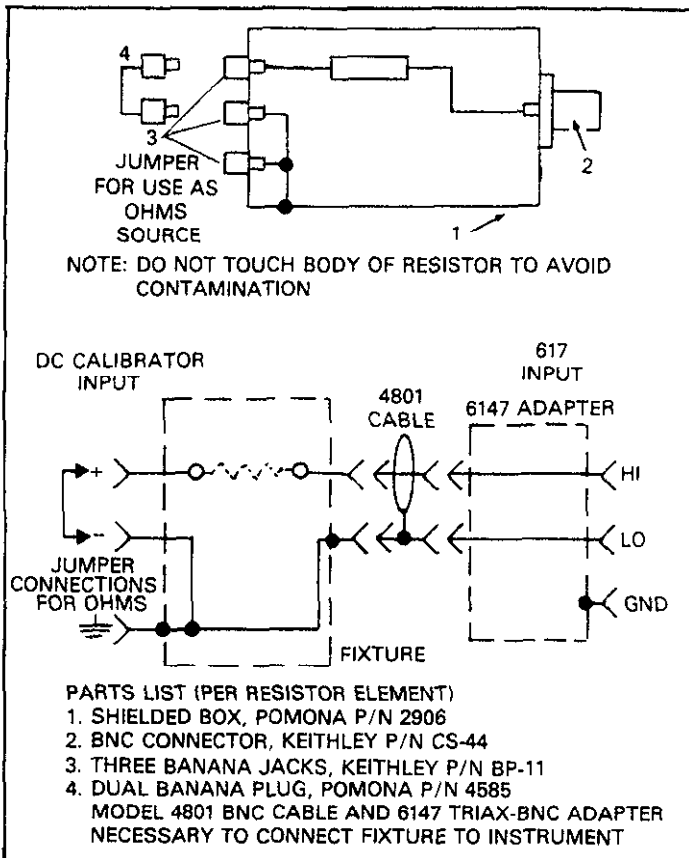
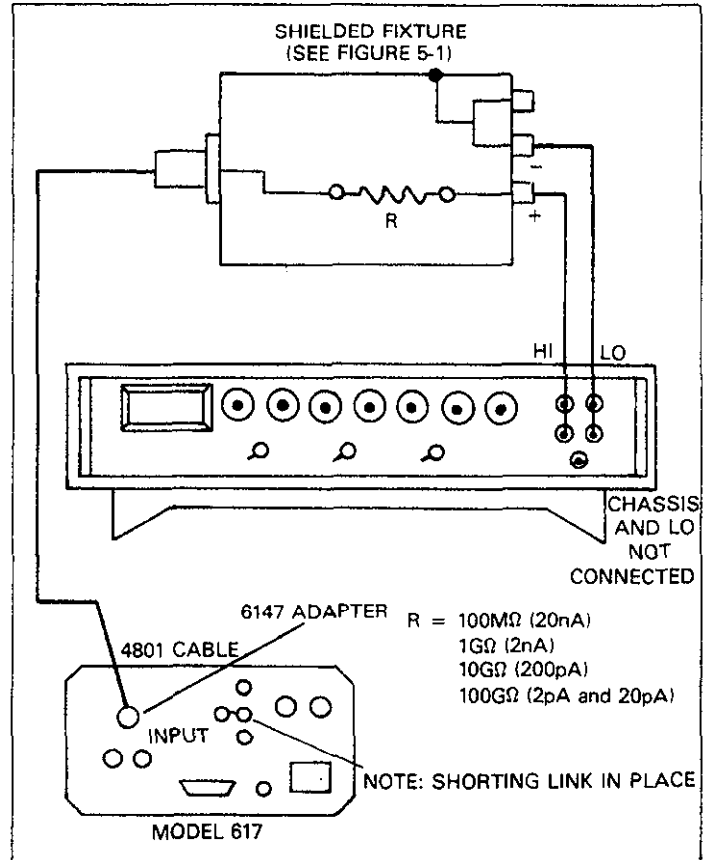

Figure 5-1. Test Fixture Construction
Figure 5-3. Connections for Amps Verification (2pA to 20nA Ranges)
Shielded Test Box	See Figure 5-1
this shield is noted in Figure 5-1. Note that the jumper configuration will depend on whether the amps or ohms mode is being calibrated.
13. Mount the 100M Ω resistor in the shielded fixture (construction is covered in Figure 5-1) and connect the fixture to the instrument, as shown in Figure 5-3.